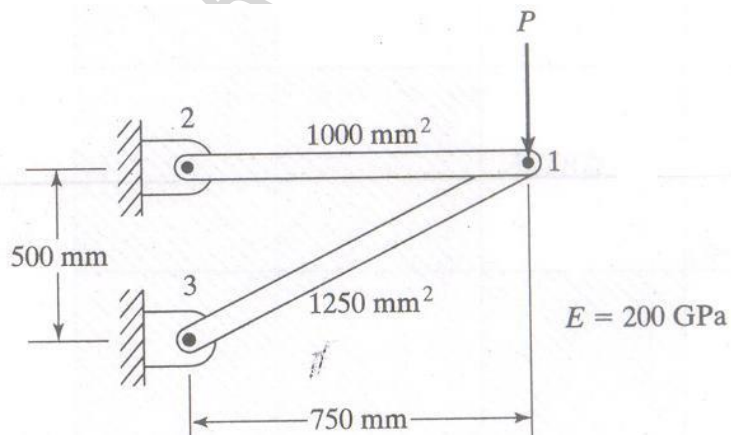

Fig. 4b
- b) For the pin jointed configuration shown in Fig.4b, determine the Element stiffness Matrix, Displacement, and stress in both elements. $P=1000 \text{ N}$ 12